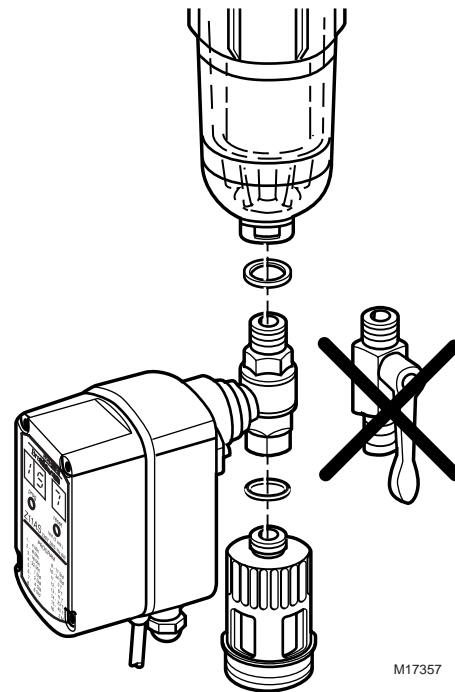

Fig. 7. Installing the MV876B on the F76A.
3. Remove the backwash outlet (see Fig. 7):
4. Connect the MV876 to the F76A (see Fig. 7):
5. Connect the hose fitting to the MV876 backwash outlet (see Fig. 7).